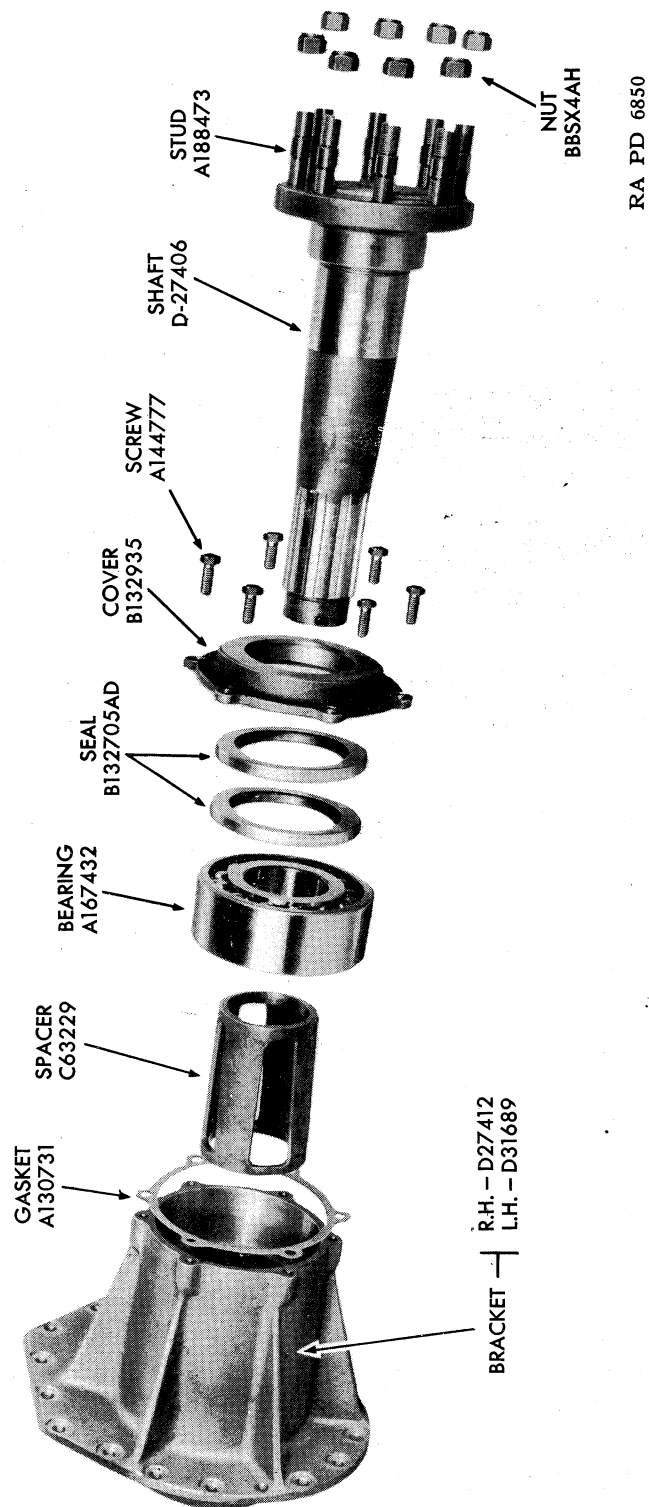

FIGURE 83—Parts of final drive bracket and driven shaft assembly.
34. Disassembly (figs. 83 and 85). — *a. Equipment.* — Equipment needed for any single step is listed in that step. Equipment required for the total disassembly is listed below.
35. Final drive bracket (figs. 83 and 85).—a. Cleaning.—Use live steam and clean inside of bracket thoroughly. (If steam is not available use SOLVENT, dry-cleaning.) It is especially important that all bearing recesses or bores be cleaned well to aid inspection.
36. Final drive driven shaft assembly (fig. 83).—a. Inspection.—Carefully clean all parts in dry-cleaning solvent. Clean the outboard BEARING (A167432) as directed in paragraph 25. Examine the inner ring of the bearing and the bearing seat on the shaft for signs of scratching or abrading. Check the two oil seals for worn, mutilated or turned-over leathers. Replace the seals if they are imperfect. Inspect cover cap SCREWS (A144777). Try them in the tapped holes in the bracket and replace if less than No. 2 fit. Check driven shaft flange to hub STUDS (D27406) and safety NUTS (BBSX4AH). Replace all worn or unserviceable studs or nuts.